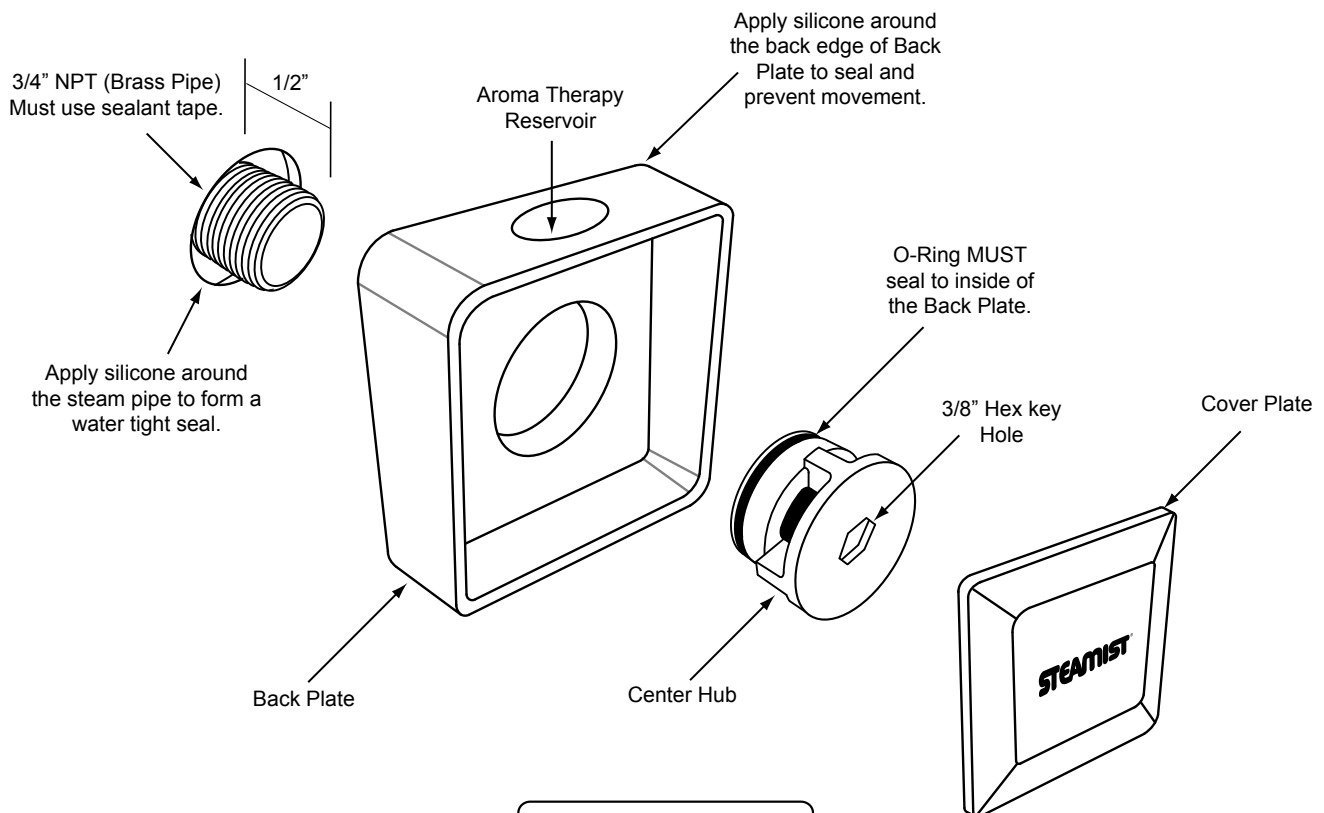

Figure 5
1. Make sure the 3/4" nipple protrudes beyond the tile approximately 1/2". (See Figure 5)
3. Put a bead of silicone around the outer edge of the Back Plate (see Figure 5) and center the back plate over the pipe in an upright position. While holding it in place screw the Center Hub on to the nipple, using a 3/8" Hex Key to tighten.